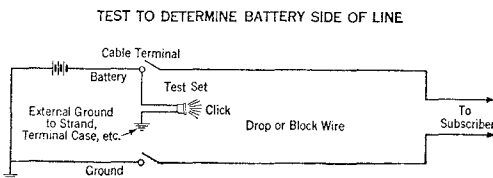

Fig. 1
**2.03** The drop or block wire in which the fault is located should be found by the following test. Disconnect all drop, block or bridle wires bridged to the grounded line from the binding posts in the cable terminal, so placing the wires that they may be reconnected in their original position upon completion of the test. (If it is known which side of the line is grounded it is necessary to disconnect only the wires on the grounded side of the line.) Connect one clip of the test set to a suitable ground such as the metal terminal case or suspension strand and touch the other clip to the binding post on which battery normally should be found. (See fig. 1). If no battery click is heard in the receiver, touch the other binding post. (If still no battery click is heard there is other trouble on the line which must be cared for before proceeding with the locating of the trouble in the drop or block wire.)